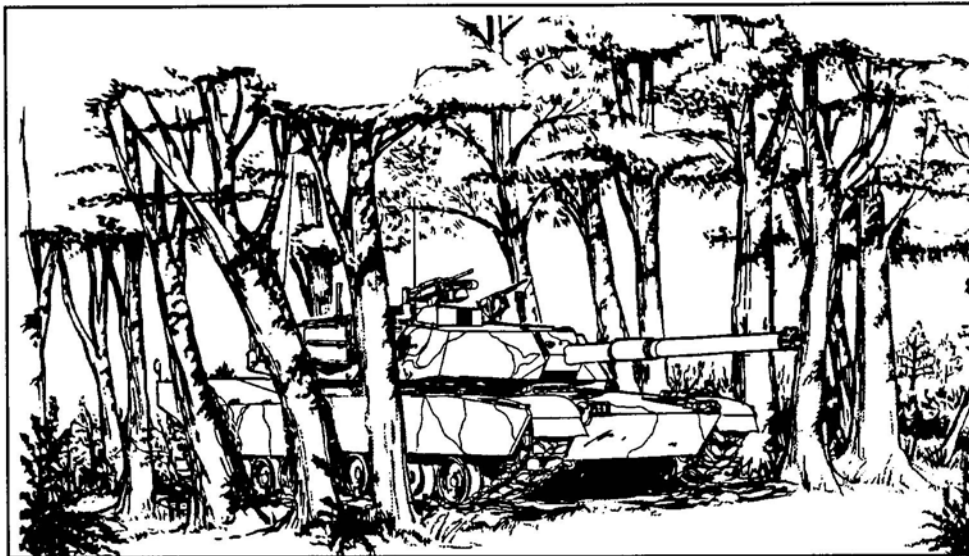

Figure 1. Vehicle capabilities.
- (1) Most military vehicles can knock down a tree. Larger vehicles can clear more trees but cannot knock down several trees at once. Find paths between trees that are wide enough for the vehicle (Figure 1).